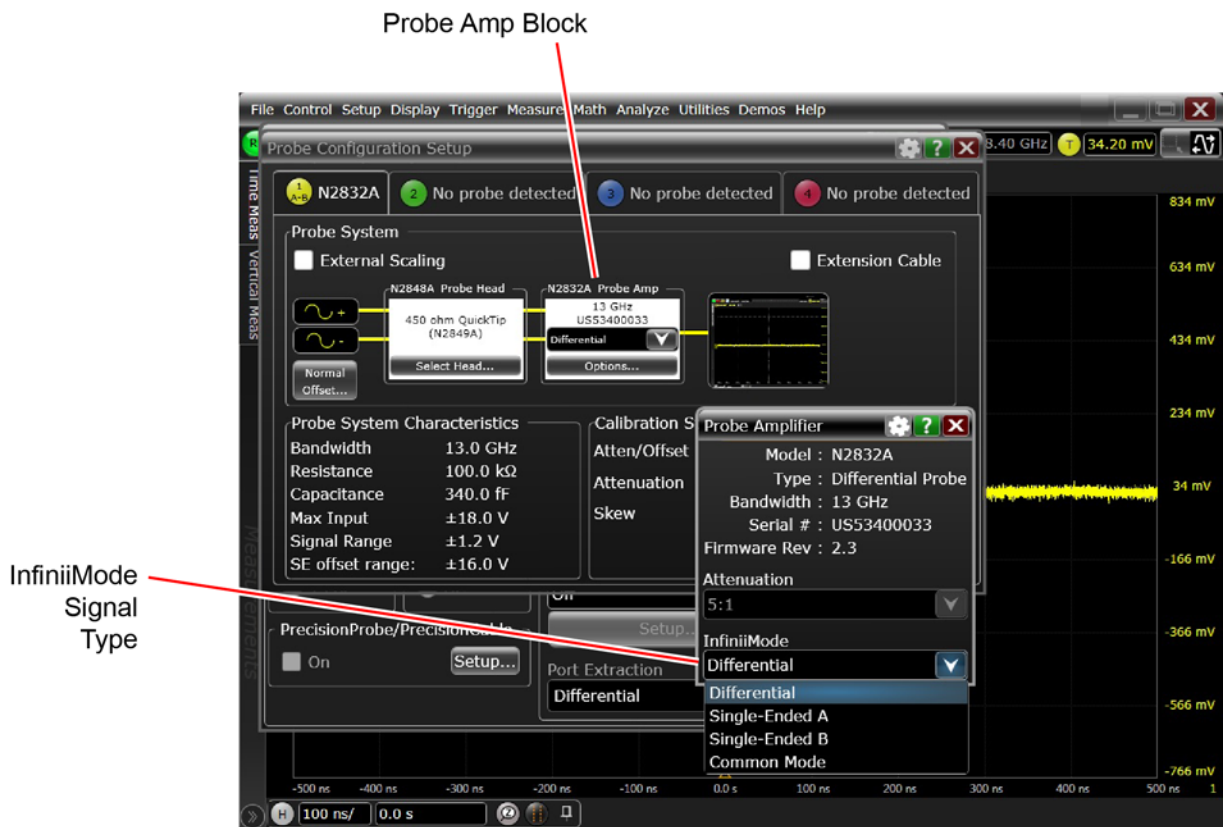

Figure 16 Probe Configuration Dialog Box and Probe Amplifier Dialog Box
- 1 Click **Setup** > **Probe Configuration** to open the **Probe Configuration Setup** dialog box shown in **Figure 16**.